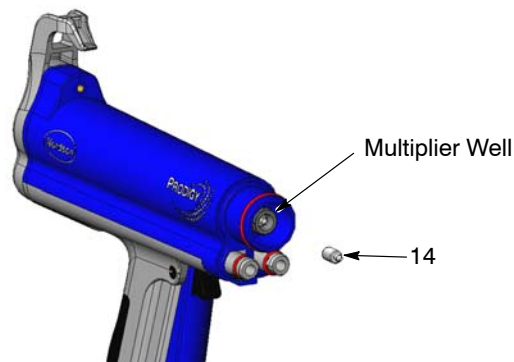

Figure 26 Removing the Contact Spacer
7. See Figure 26. Remove the contact spacer (14) from the multiplier well. Wipe the dielectric grease off the contact spacer.
2. Insert the resistor into the resistor holder (1) until it bottoms out, then fill the resistor well with approximately 0.8 cc of dielectric grease.
3. See Figure 26. Insert the contact spacer into the multiplier well. Fill the multiplier well with dielectric grease.